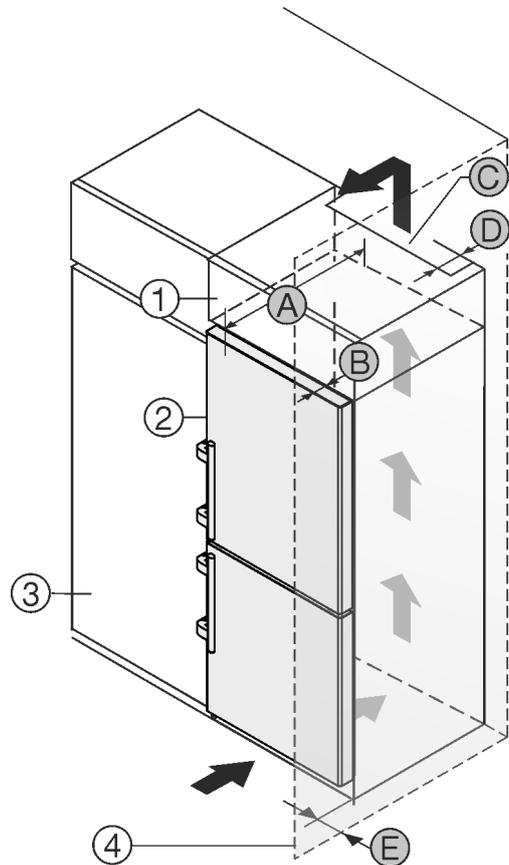

Fig. 47
The appliance can be built into kitchen units. A top cupboard Fig. 47 (2) can be added above the appliance Fig. 47 (1) up to the height of the fitted kitchen units.
If the appliance is positioned directly next to a kitchen cabinet *Fig. 47 (3)*, a distance of at least 5 cm from the appliance is necessary. The appliance must protrude by the depth *Fig. 47 (B)* from the front of the cabinet so that the doors can be opened fully. The appliance may protrude further depending on the depth of the kitchen cabinets and whether wall spacers are used.
- At the back of the top cabinet, there must be an air outlet shaft with depth *Fig. 47 (D)*, spanning the entire width.
- The ventilation shaft *Fig. 47 (C)* must be observed under the ceiling.
If the appliance is installed with the hinges next to a wall *Fig. 47 (4)*, the distance *Fig. 47 (E)* between the appliance and the wall must be observed. This is how far the handle protrudes when the door is open.